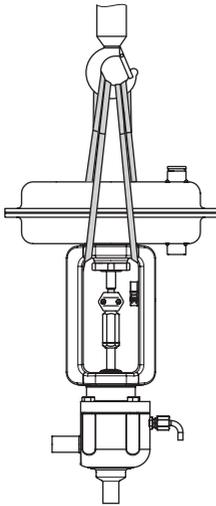
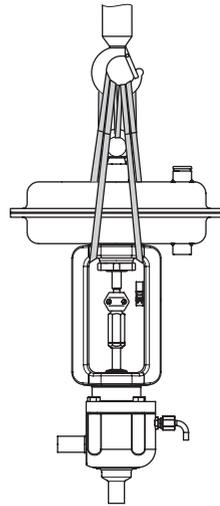
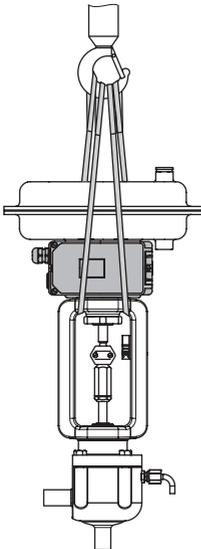
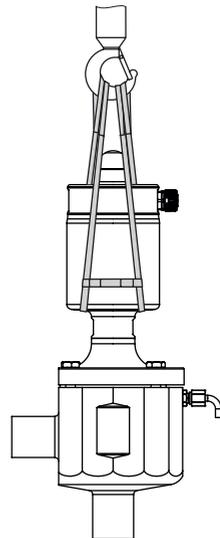

Fig. 6: Type 3349 with Type 3271 without lifting eyelet
Fig. 7: Type 3349 with Type 3271 with lifting eyelet
Fig. 8: Type 3349 with Type 3277 without lifting eyelet
Fig. 9: Type 3349/3379
- Use a hook with safety latch (see Fig. 6 to Fig. 9) to secure the slings from slipping off the hook during lifting and transporting.
the crane or forklift (see Fig. 6, Fig. 7 and Fig. 8). Make sure that the actuator stem and valve accessories are not damaged.
For actuator versions with lifting eyelet, attach an additional sling to the lifting eyelet of the actuator and to the rigging equipment of the crane or forklift (see Fig. 7).
With Type 3379: carefully guide two slings around the actuator. Secure the slings against slipping by using a connector (see Fig. 9).